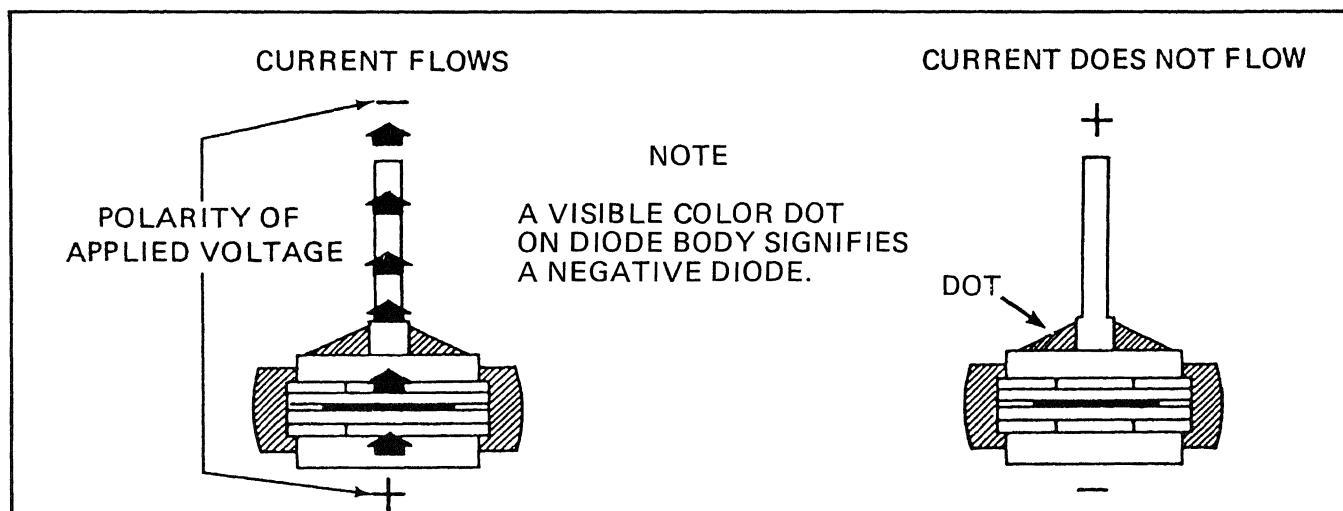

Figure 5-28.23. Negative Diode Tests
- (b) Figure 5-28.23 shows testing of the negative rectifier diode assembly, where the part number is printed in Black.